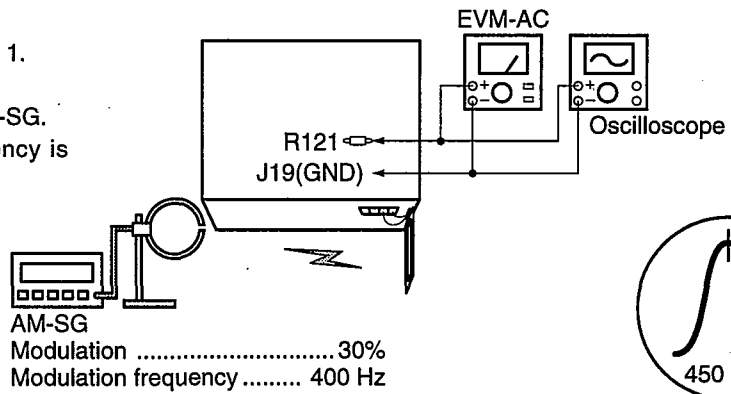

Fig. 1
1. Connect the instrument as shown in Fig. 1.
3. Apply signal as shown in Fig. 1 from AM-SG.